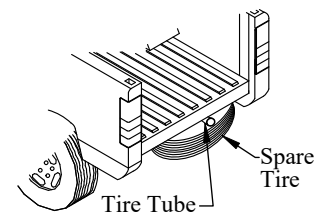

Figure 8: Spare tire and spare tire tube location.
- Lower** the spare tire (Figure 8).
- Trim** the spare tire tube so that it is even with the rear of the truck box (Figure 8).